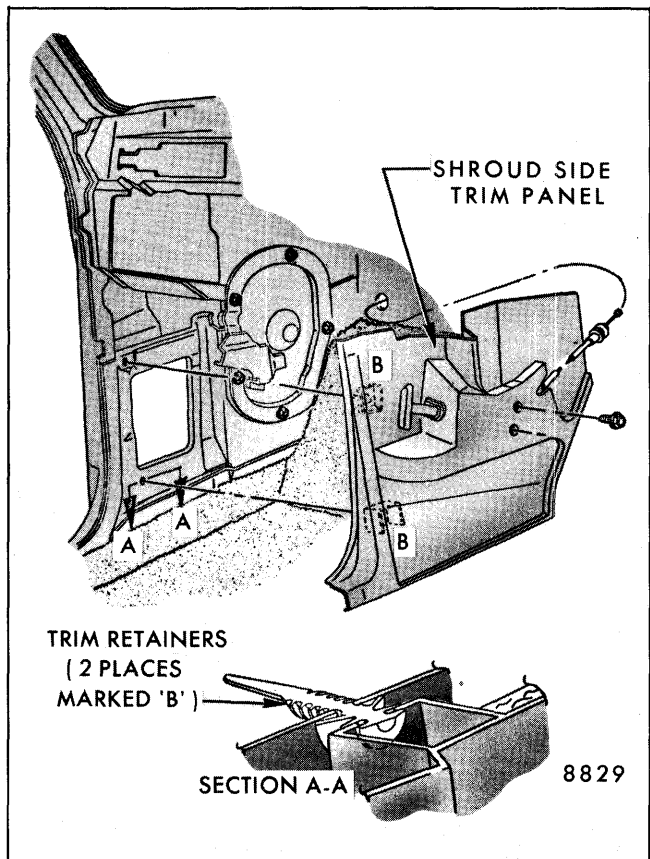

Fig. 4-3-Shroud Side Trim Panel (Left Side)
4. Remove two screws securing trim panel to side shroud; then using trim removal tool J-24595, BT 7323 or equivalent, disengage two trim fasteners from side shroud panel (Fig. 4-3).